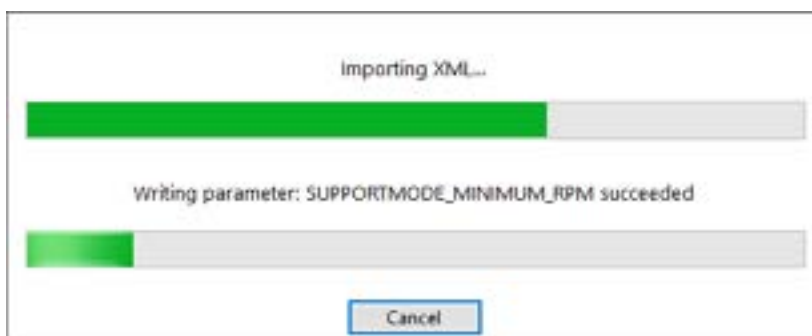
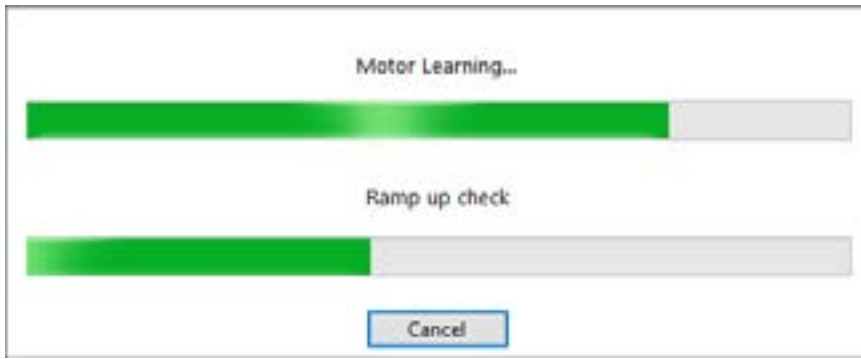

Figure 3.25 Auto-update – importing the configuration file
Figure 3.26 Auto-update – motor learning
3. The XML configuration file is then imported (Fig. 3.25) and “motor learning” takes place (Fig. 3.26).